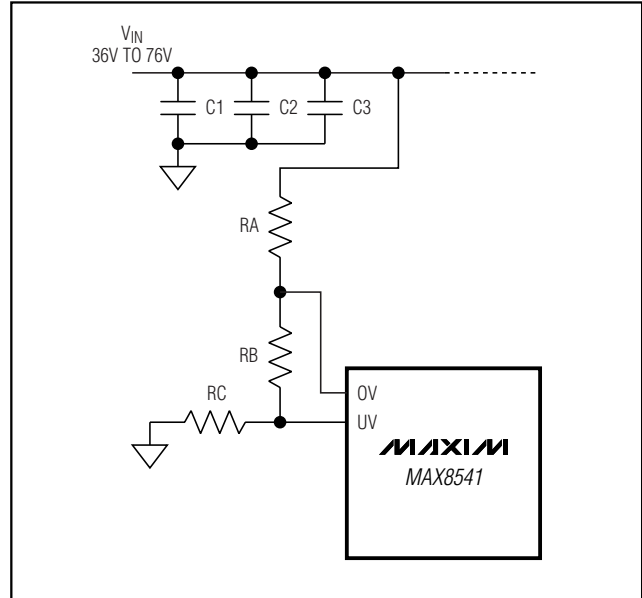

Figure 1. A Method to Set UV and OV Thresholds
An alternate method used in the application circuits for setting the OV and UV trip points is demonstrated in Figure 1. Use 36.5kΩ for the bottom resistor (RC). RA and RB are calculated as follows: